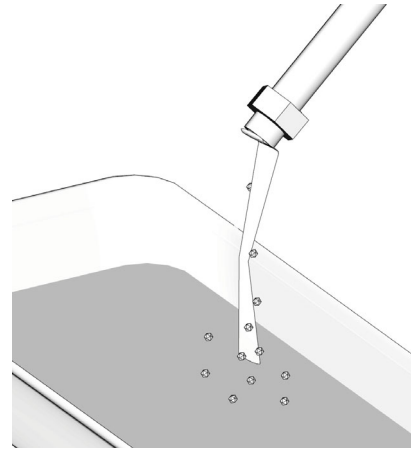

FIG. 8
- Flush equipment with a compatible solvent until fluid runs clear (FIG. 8).